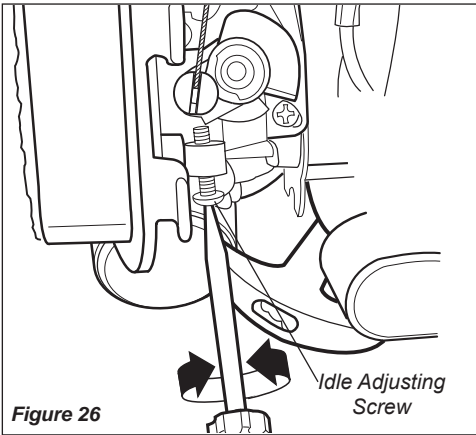

Figure 26
- If the attachment rotates when the engine is at idle, reduce the idle speed by turning the idle adjustment screw counter-clockwise. See Figure 26.